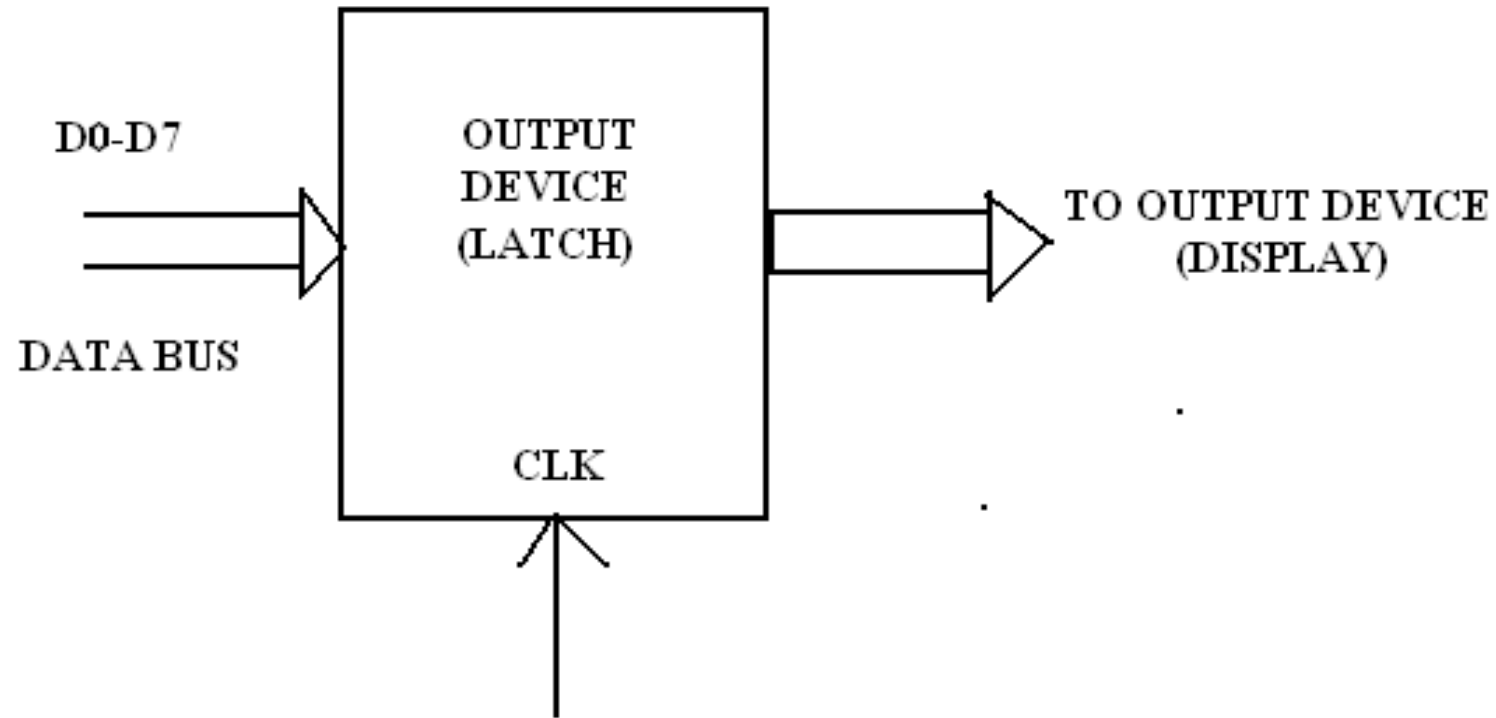

FIG.2 OUTPUT PORT
- It is used to send data to the output device such as display from the microprocessor. The simplest form of output port is a latch. The output device is connected to the microprocessor through latch, as shown in the fig.2. When microprocessor wants to send data to the output device is puts the data on the data bus and activates the clock signal of the latch, latching the data from the data bus at the output of latch. It is then available at the output of latch for the output device.